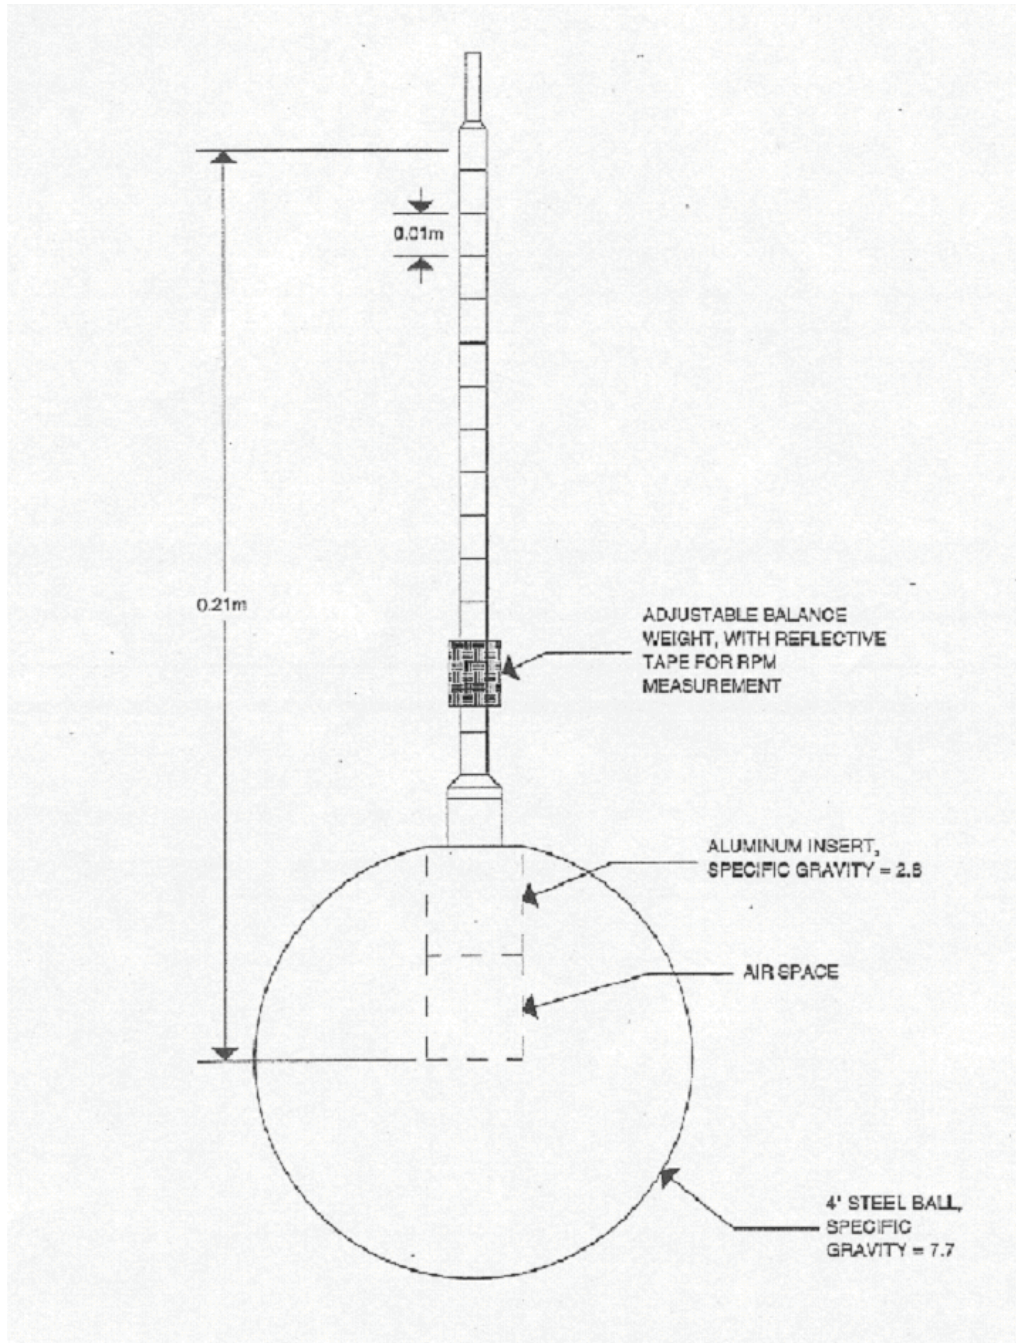

Figure 4.5: A diagram of the lab gyroscope shown in the photographs of Figure 4.2
Our experiment uses a rotating sphere mounted on an air bearing (see Figure 4.5) so that the center of the sphere remains fixed in space (or at least fixed relative to the laboratory room). That is, this gyroscope gyroscope with one *fixed point*.
Figure 4.2: The ball with the stick (left) is our gyro. It sits in a spherical bowl (center) into which air is pumped (through the tiny hole at bottom of the bowl). Thus it is free to rotate about its center with very low friction. You can push the stick or add weights to it. A diagram of the ball is in Figure 4.5.
Our lab gyroscope is a 4" diameter steel ball on an air bearing (see Figure 4.5). On one side of the ball a rod is mounted in order to spin the top and apply moments to it. This side of the ball has also been bored out so that the rod side is lighter and the center of mass can be adjusted to either side of the center of the sphere by sliding a balance weight in or out. The balance weight is black, with reflective tape, to make rotation rate measurements easier. The sphere is supported in a spherical cup into which high pressure air is supplied so that the sphere is actually supported by a thin layer of air (similar to the air track).
To experimentally measure the spin rate ω of the gyroscope you will use a tachometer (measures in rotations per minute, or rpm). To measure the precession rate $\dot{\phi}$ you will use a stop-watch. We will apply a net moment about the fixed point by adding a weight of a known mass to the rod. We can use a diagram of our gyroscope (see Figure 4.5) to estimate the torque-arm and thus calculate the net applied moment.
- (a) Add another weight to the rod so that the gyroscope is no longer balanced. Record its mass and position on the rod for use in calculations later (see Figure 4.5).